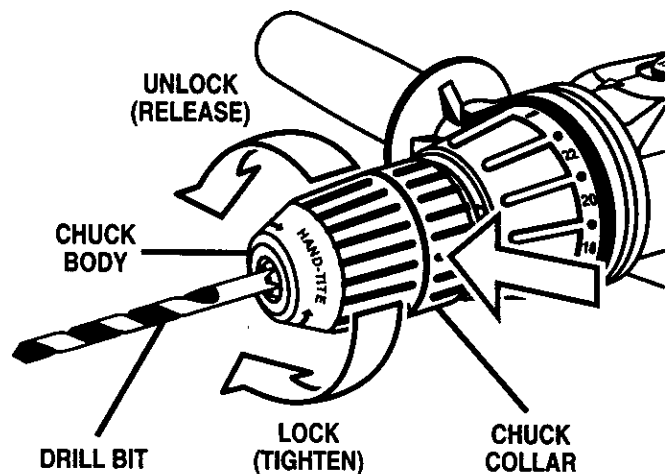

Fig. 7
See Figure 7.
- To tighten the chuck jaws on drill bit; grasp and hold the collar of the chuck with one hand, while rotating the chuck body with your other hand. **Note:** Rotate the chuck body in the direction of the arrow marked **LOCK** to tighten chuck jaws. See Figure 7.
- To loosen: grasp and hold the collar of the chuck with one hand, while rotating chuck body with your other hand. **Note:** Rotate chuck body in the direction of the arrow marked **UNLOCK** to loosen chuck jaws. See Figure 7.